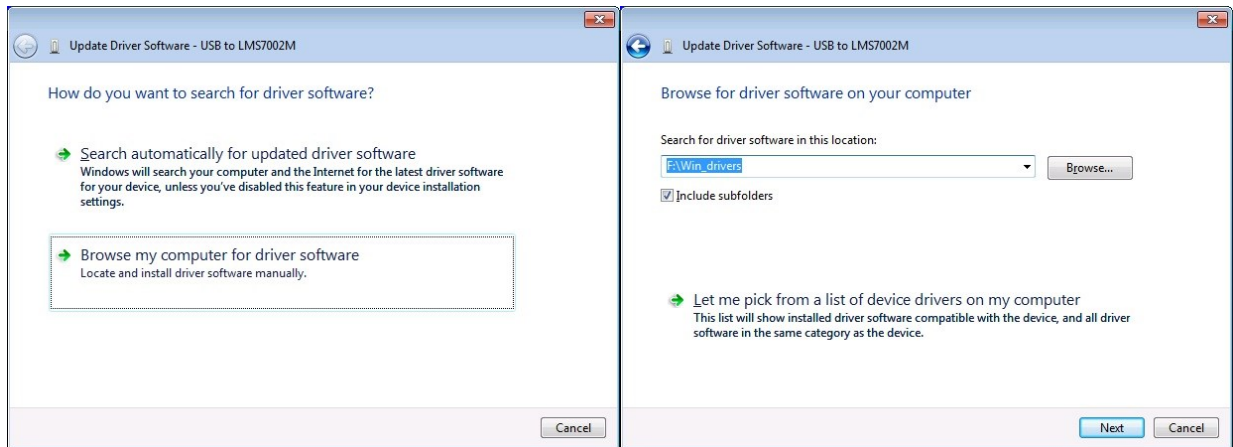

Figure 43 Locate USB driver.
5. Select **Browse my computer for driver software**, locate the driver provided with the kit and press **Next**, see *Figure 43*.